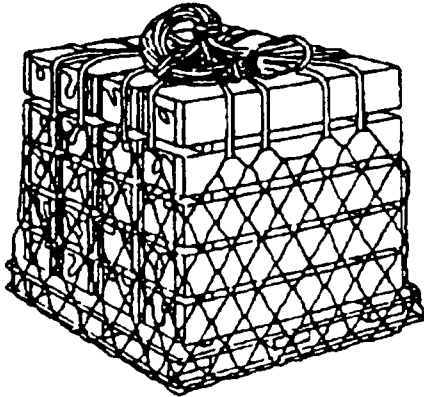

Figure 1-14. Lifting Legs Coiled on Top of Load
Step 8 - Coil the lifting legs on top of the load. The net is now ready for hookup to the helicopter (Figure 1-14). If the load must be moved, carefully guide the forklift forks through the net and into the pallet slots. Pallets can be stored temporarily with nets around them. They should not be stored on concrete. Place empty pallets on the concrete surface and set the netted pallet on top of it.